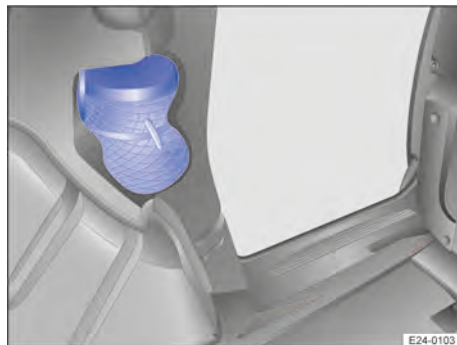

Fig. 141 In the side panel: load restraint net stowed.
2. Open the toggle fastener and unfold the load restraint net → Fig. 141.
→ Fig. 141.